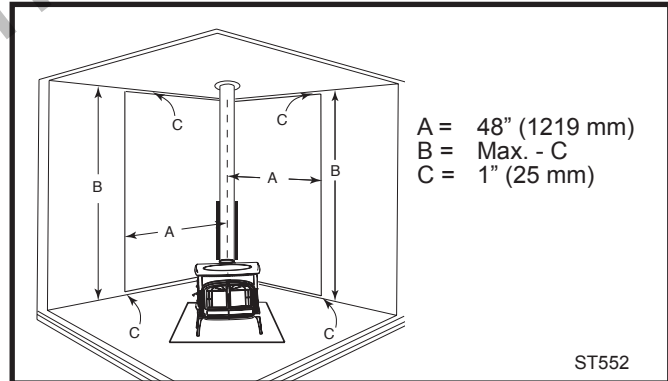

Fig. 17 Corner installation, vertical chimney connector, two wall shields.
**Corner installation, vertical chimney connector, two wall shields.** Fig. 17: Reduced side clearances. Wall shields MUST meet at corner.